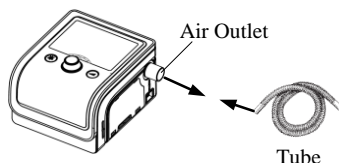
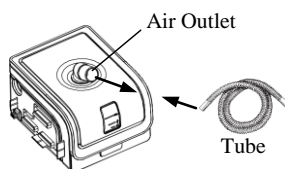

Fig. 11-6
Fig. 11-7
(1) Connect one end of the tube to the air outlet of the main device, as shown in Fig. 11-6. If the main device is used with a humidifier, connect one end of the tube to the air outlet of the humidifier, as shown in Fig. 11-7.